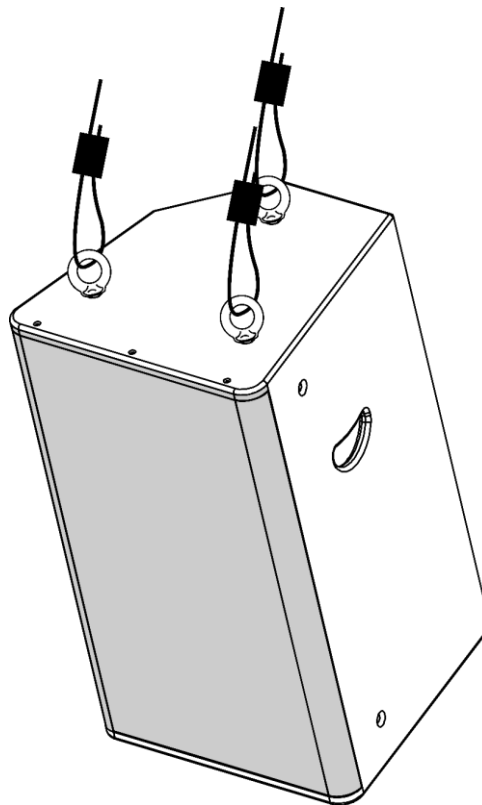

Fig. 06
- 03) Install the speaker (Fig. 06). Please follow the European and national guidelines concerning rigging, trussing and all other safety issues. Do not attempt the installation yourself! Always let the installation be carried out by an authorized dealer!